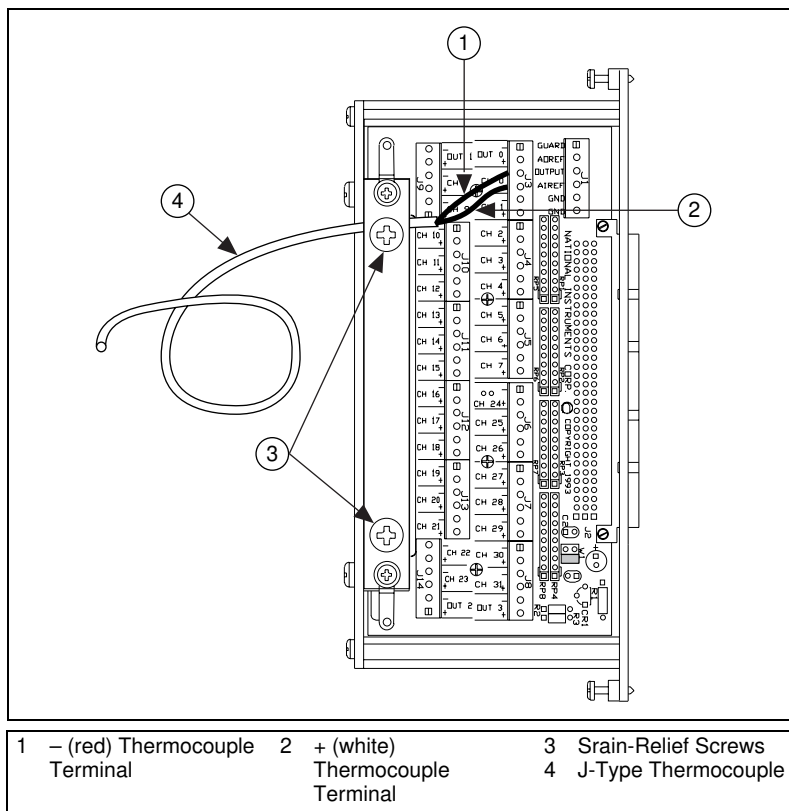

Figure 2. Thermocouple Connected to Channel 0 of the SCXI-1303 Terminal Block
4. To connect the wires to the SCXI-1303 screw terminals, insert the wires into the terminals and tighten the screws with a flathead screwdriver. Refer to Figure 2 to install the J-type thermocouple on channel 0.